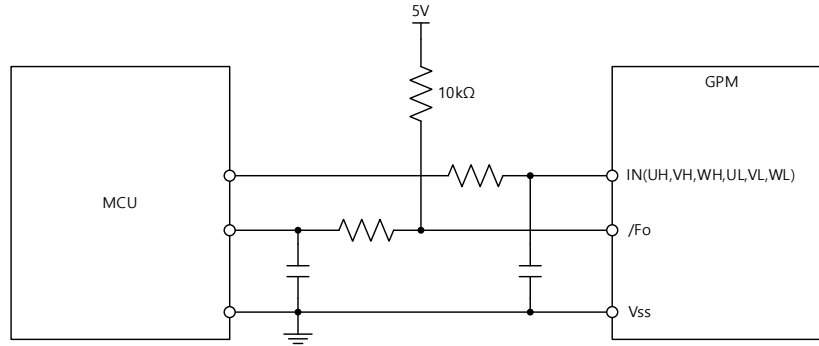

Figure 7. Recommended MCU I/O Interface Circuit
2. Fault output is an open-drain type. This signal line should be pulled up to the positive side of the MCU or control power supply with a resistor that makes I_{FO} up to 1 mA. Please refer to Figure 7.
3. Input signal is active-HIGH type. There is a 5 k Ω resistor inside the IC to pull-down each input signal line to GND. RC coupling circuits should be adopted for the prevention of input signal oscillation. RC time constant should be selected in the range 50–150 ns (recommended R = 100 Ω , C = 1 nF). Please refer to Figure 7.